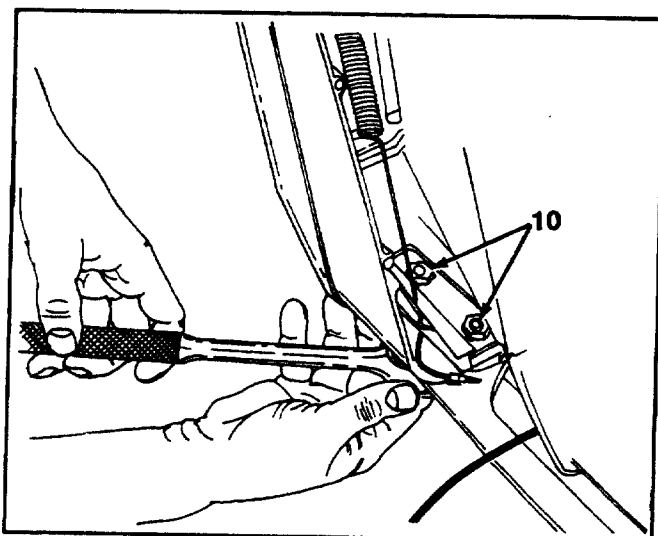

FIGURE 9.
9. Remove four hex bolts and lock washers securing the grille and hood to the front chassis. See figure 9. Use a $\frac{1}{2}$ " socket wrench, going up through the access holes in the chassis.